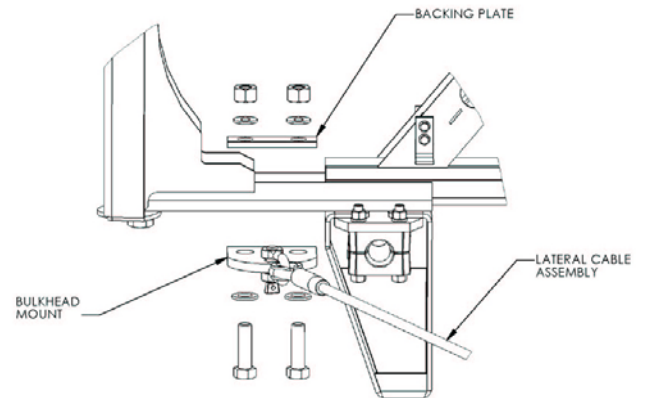
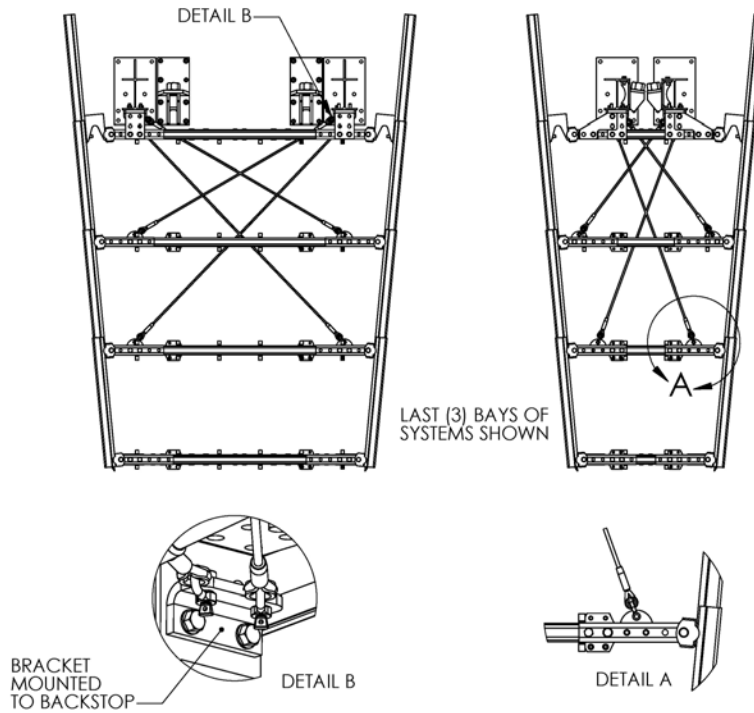

Figure 31 Lateral Support Cable
Figure 35 Install Cable Clamps
The Lateral Support Cables are ½” [12mm] diameter and have a ½” [12mm] shackle on one end. There are eight (8) cable assemblies in the kit. The shackles pin to the cable mounts on the bulkheads and Wide Flange Backstops (Figure 31, 32, 33, 34, 35). The two cables from each backstop are routed to the opposite sides of the last two bulkheads (Figure 35).